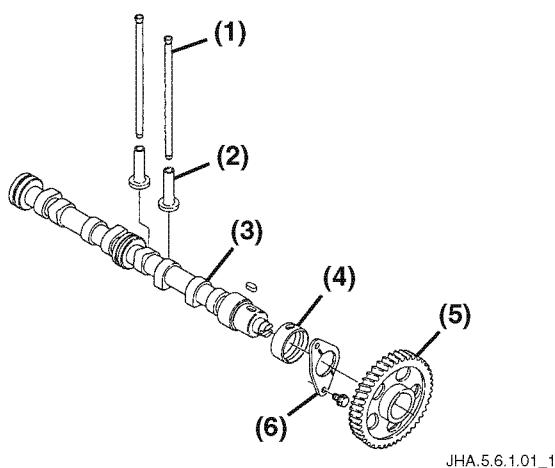

Figure 5-81
2. Remove all push rods (Figure 5-81, (1)). Rotate the camshaft (Figure 5-81, (3)) to raise the tappets (Figure 5-81, (2)) and then remove all tappets. **NOTICE:** Keep all parts in order during removal.
3. Remove the thrust bearing bolts and remove the thrust bearing (Figure 5-81, (6)).
4. Carefully remove the camshaft and camshaft gear (Figure 5-81, (5)) from the cylinder block.